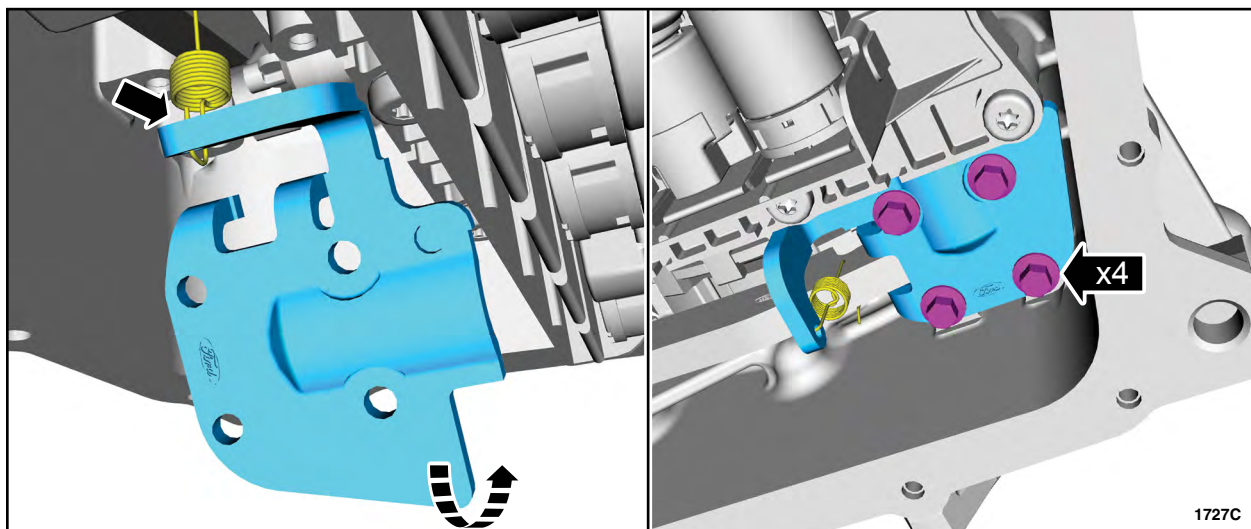

FIGURE 3
5. Install a *new* park rod actuating plate onto the park pawl return spring. See Figure 3.